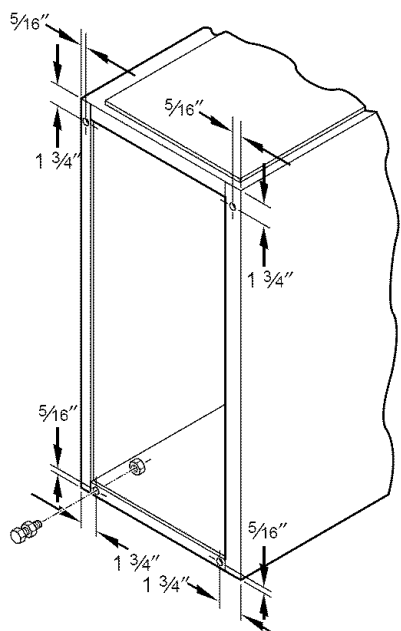

Fig. 17—Leveling Legs
When furnace is used in upflow position with side inlet(s), leveling legs may be desired. (See Fig. 17.) Install field-supplied, corrosion-resistant 5/16-in. machine bolts and nuts.
1. Position furnace on its back. Locate and drill a 5/16-in. diameter hole in each bottom corner of furnace. (See Fig. 17.) Holes in bottom closure panel may be used as guide locations.